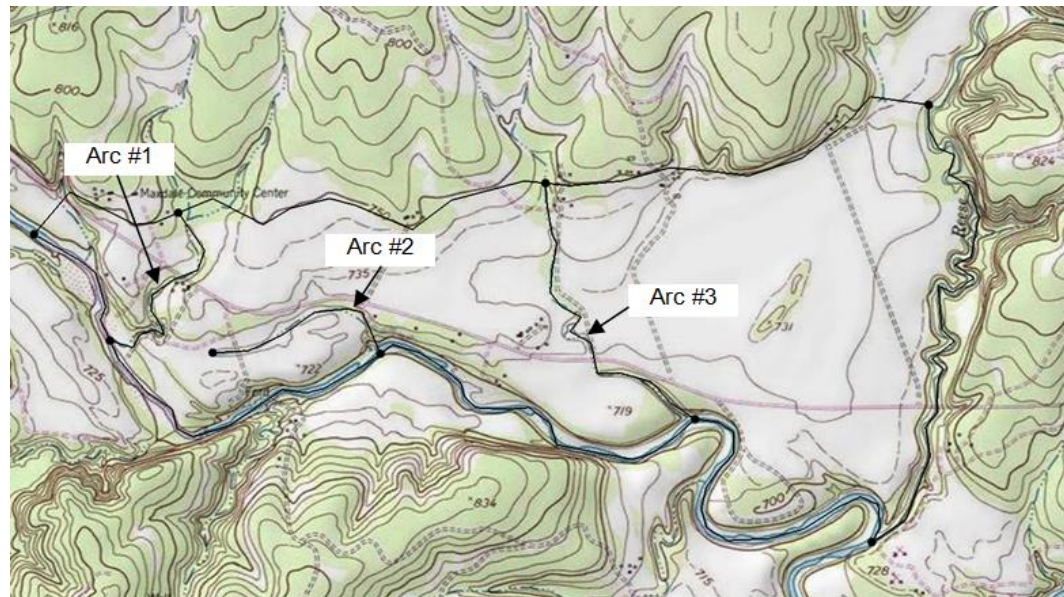

Figure 4 The drain arcs
2. Create the arc labeled as arc #1 in Figure 4. Start by clicking on the bottom arc, create the arc by clicking points along the creek bed, and end the arc by double-clicking on the top arc.
3. Create the arcs labeled arc #2 in Figure 4 by clicking on the bottom arc, clicking points along the creek bed, and then double-clicking at the end of the creek bed.
4. Create arc #3 in Figure 4 the same way that arc #1 was made.